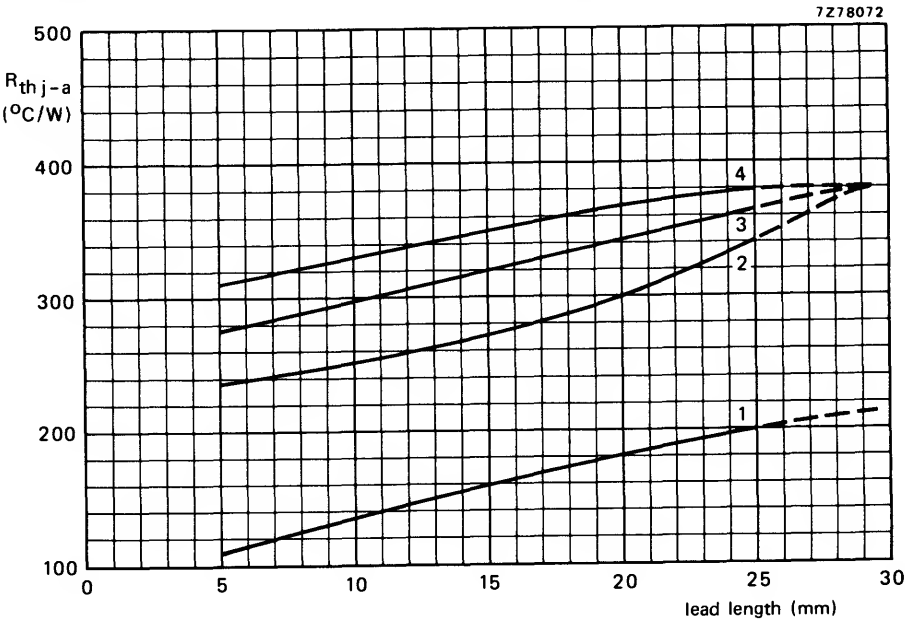

Fig. 2 Thermal resistance as a function of the lead length for various mounting.
1. Mounted as given in Fig. 2 the thermal resistance $R_{th\ tp-a}$ is 70 K/W.
see Fig. 2